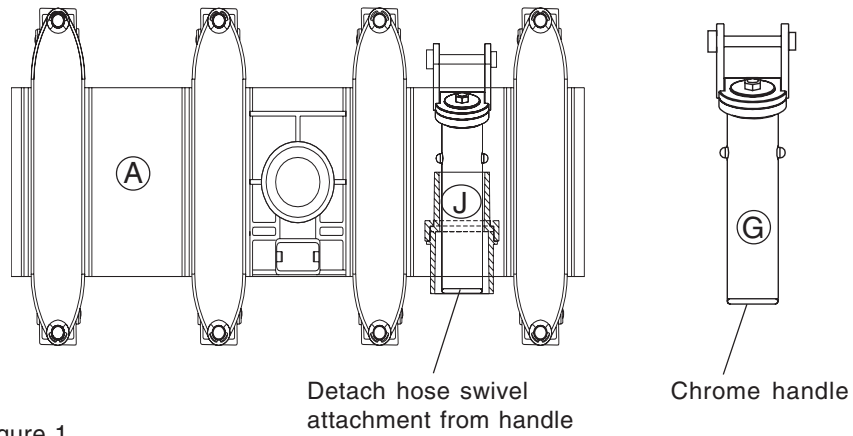

Figure 1.
1. Remove the chrome handle (G) and hose swivel attachment from the vacuum body (A). Separate the hose swivel attachment (J) from the handle. See Figure 1.